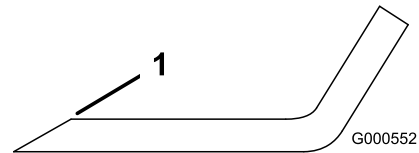
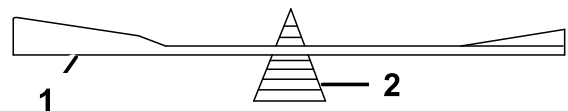

Figure 47
Figure 48
1. Use a file to sharpen the cutting edge at both ends of the blade (Figure 47). Maintain the original angle. The blade retains its balance if the same amount of material is removed from both cutting edges.
2. Check the balance of the blade by putting it on a blade balancer (Figure 48). If the blade stays in a horizontal position, the blade is balanced and can be used. If the blade is not balanced, file some metal off the end of the sail area only (Figure 47). Repeat this procedure until the blade is balanced.